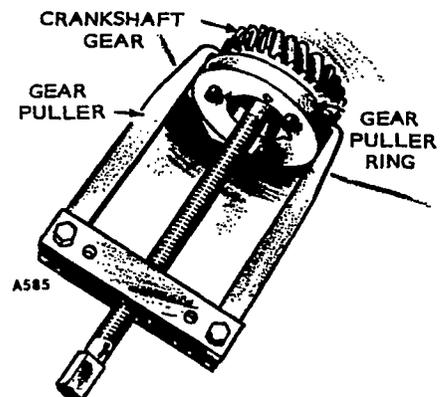

FIGURE 84. REMOVING CRANKSHAFT GEAR
2. Pull off crankshaft gear, Figure 84. It has two ¼-20 UNC tapped holes for attaching a gear pulling ring (ONAN tool 420-0275). Use care not to damage teeth if gear is to be reused.